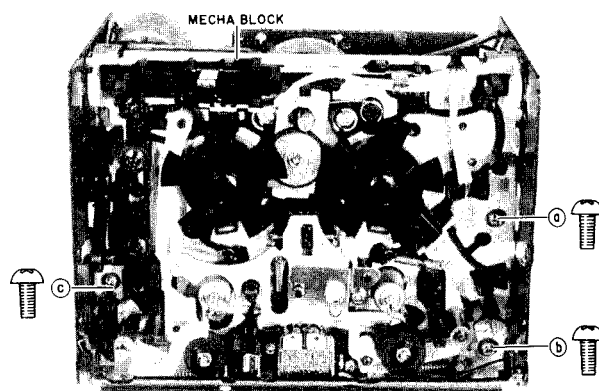

Fig. 4-6
- 3) Remove motor block securing screws ①, ② and ③ from the mechanism block front side. Remove the motor block from the mechanism block. (See Fig. 4-6.)